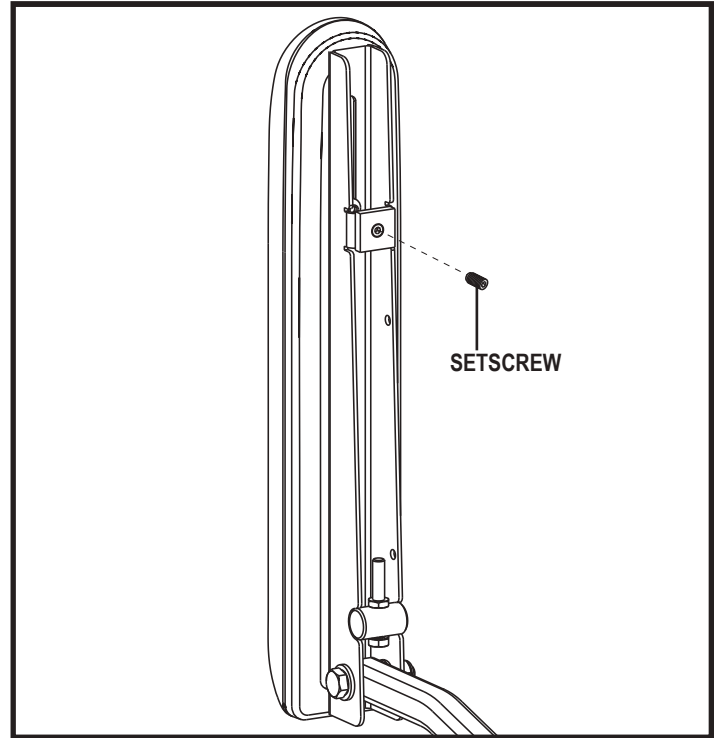

Figure 14. Underside of Armrest
2. Loosen the setscrew on the controller bracket. **See figure 14.**
5. Loosen the setscrew on the controller bracket. **See figure 14.**